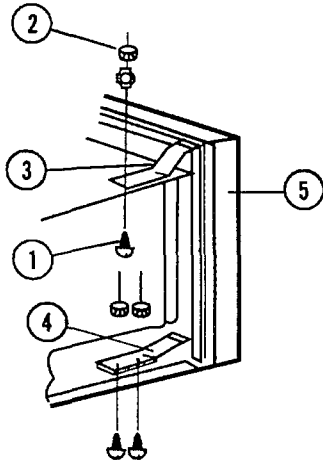

Figure 2
2. To remove door assembly. (Figure 2)
- a. Remove three bolts ① and nuts ② which secure top hinge and lower hinge stopper, ④ respectively.
- b. Remove the top hinge stopper ③ and lower hinge stopper ④.
- c. Remove door assembly ⑤.